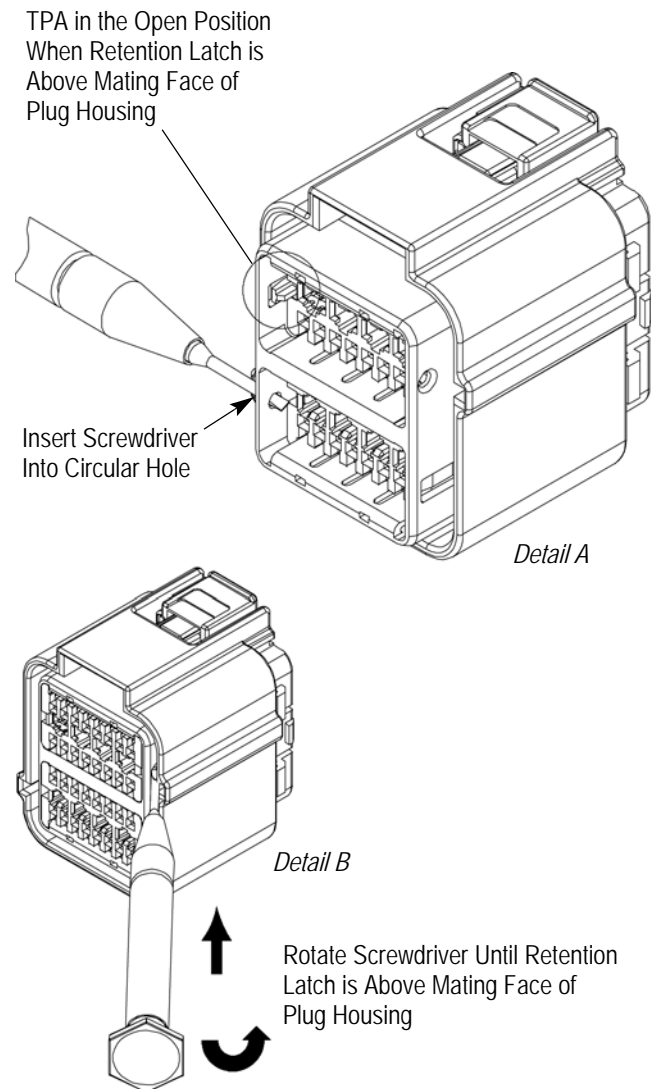

Figure 10
1. Insert a 1.0 - 1.2 mm flat-blade screwdriver into the circular hole in the TPA lock as shown in Figure 10, Detail A.
2. Using the edge of the housing shroud as a fulcrum, rotate the screwdriver toward the wire bundle. Rotate the screwdriver until the retention latch is above the mating face of the plug assembly. See Figure 10, Detail B.
If both latches are not visible, repeat Steps 1 and 2 using the circular hole on the opposite side of the TPA lock. See Figure 10.